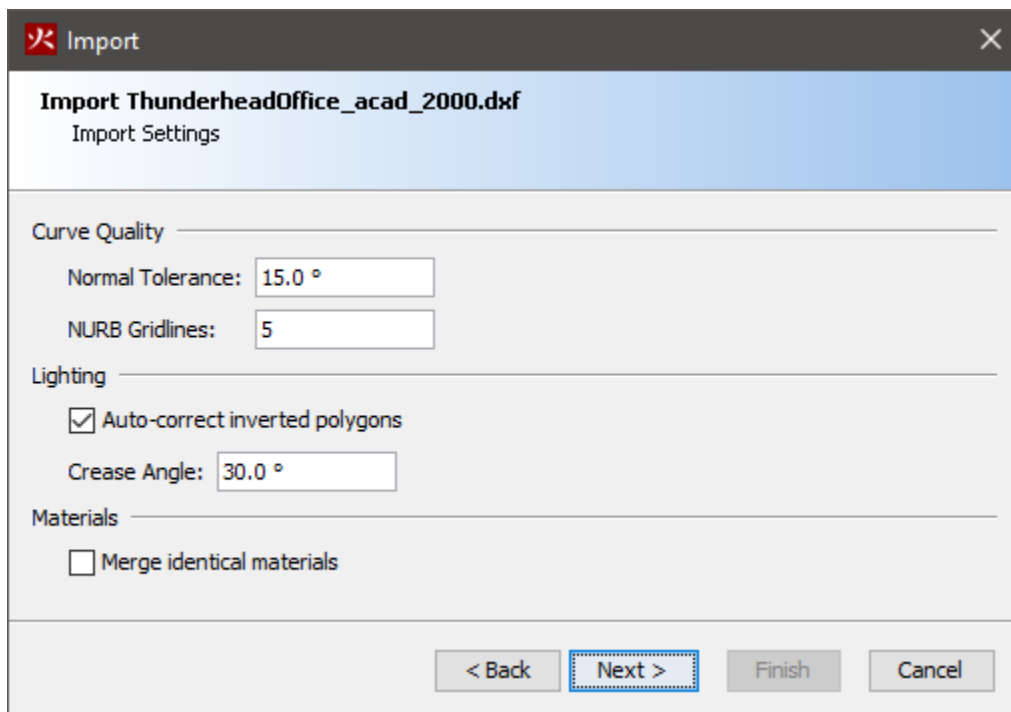

Figure 26. CAD import settings
3. **Import Settings:** The next several prompts (Figure 26) allow the user to control how some of the data is imported and to correct some data that may have been written incorrectly by the file's CAD exporter.